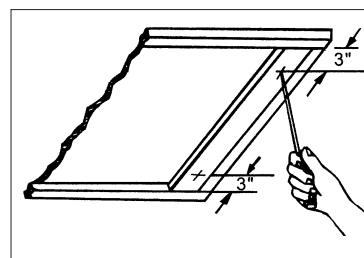

Fig.6
- b. Start a 1¼ " long wood screw (purchased locally) about 3" from each end of the 1"x2" wood strips (Fig.6)